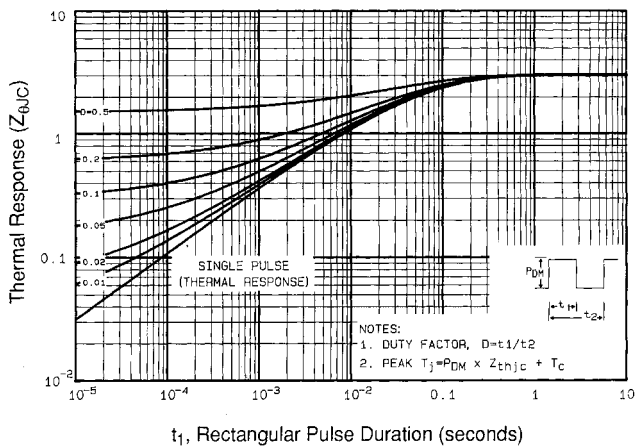

Fig 11. Maximum Effective Transient Thermal Impedance, Junction-to-Case
- ① Repetitive rating; pulse width limited by max. junction temperature (See Figure 11)
- ② $V_{DD}=50V$, starting $T_J=25^\circ\text{C}$, $L=14\text{mH}$